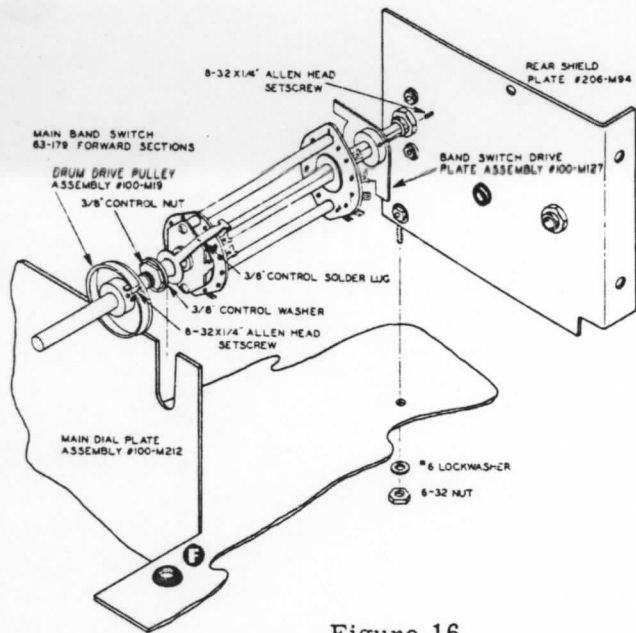

Figure 16
- () Locate the two forward sections of the main band switch (#63-179) and the band switch drive plate assembly (#100-M127). See Figure 16.
- () Start an 8-32 x 1/4" Allen head setscrew in the drive plate bushing and slip it on the band switch shaft, as shown in Figure 16. Do not secure yet.